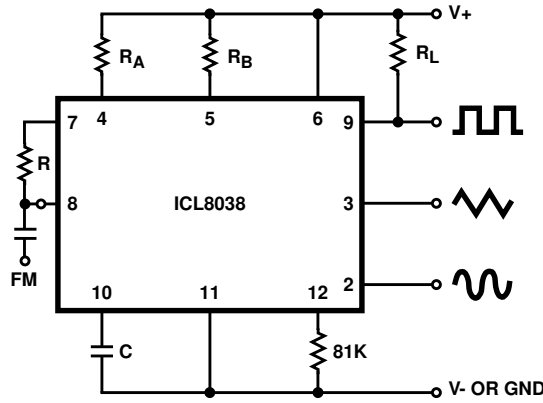

FIGURE 5A. CONNECTIONS FOR FREQUENCY MODULATION
- $V_{SUPPLY} = 20V$; R_A and $R_B = 10k\Omega$, $f \approx 10kHz$ nominal; can be extended 1000 to 1. See Figures 5A and 5B.
The frequency of the waveform generator is a direct function of the DC voltage at Terminal 8 (measured from V_+). By altering this voltage, frequency modulation is performed. For small deviations (e.g. $\pm 10\%$) the modulating signal can be applied directly to pin 8, merely providing DC decoupling with a capacitor as shown in Figure 5A. An external resistor between pins 7 and 8 is not necessary, but it can be used to increase input impedance from about 8kΩ (pins 7 and 8 connected together), to about $(R + 8\text{k}\Omega)$.